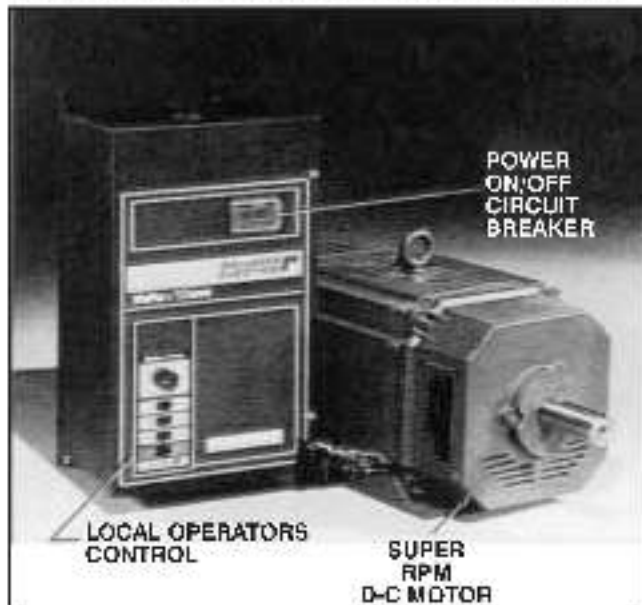

Figure 1.1 - MinPak Plus Controller and Super RPM Motor
1.0 General – This manual familiarizes the user with the three phase, MinPak™ Plus D-C V* \sqrt{S} drive controller. (Refer to Figure 1.1.) It describes assembly and